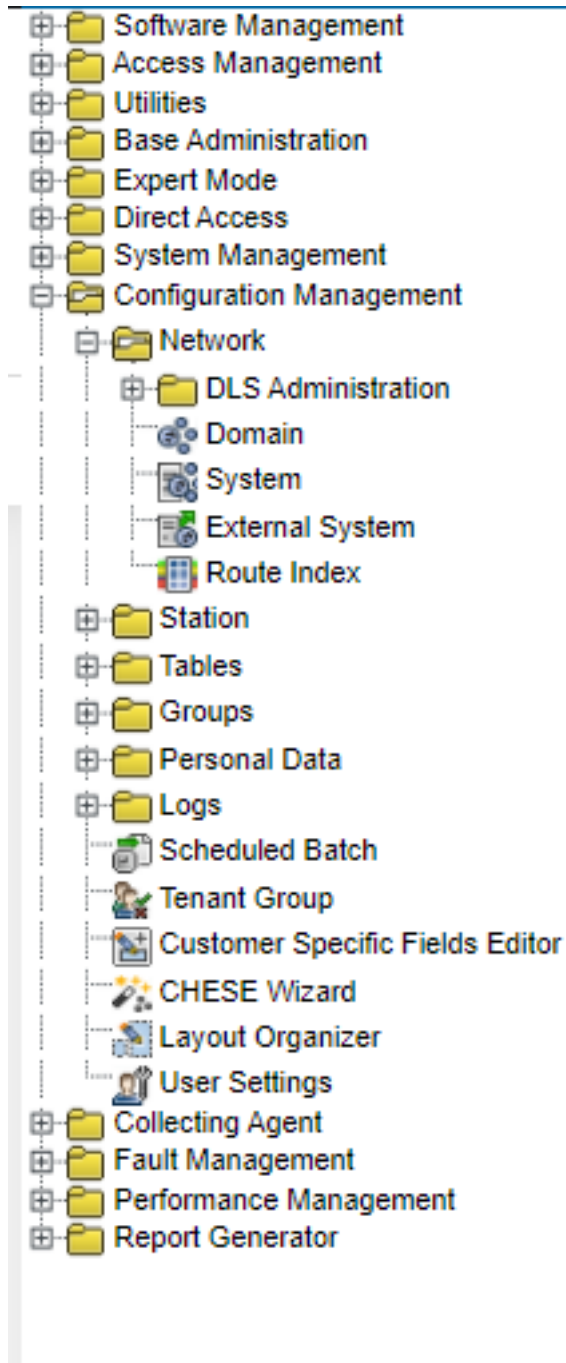

Figure 61: Creating a Domain in Configuration Management
- 2) In the Network folder, click System (see Figure 61).